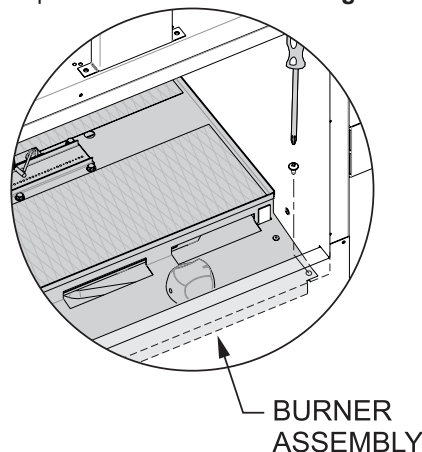

Figure 18
9. Remove two screws from front corners of the control panel with a Phillips head screw driver. **See Figure 18.**